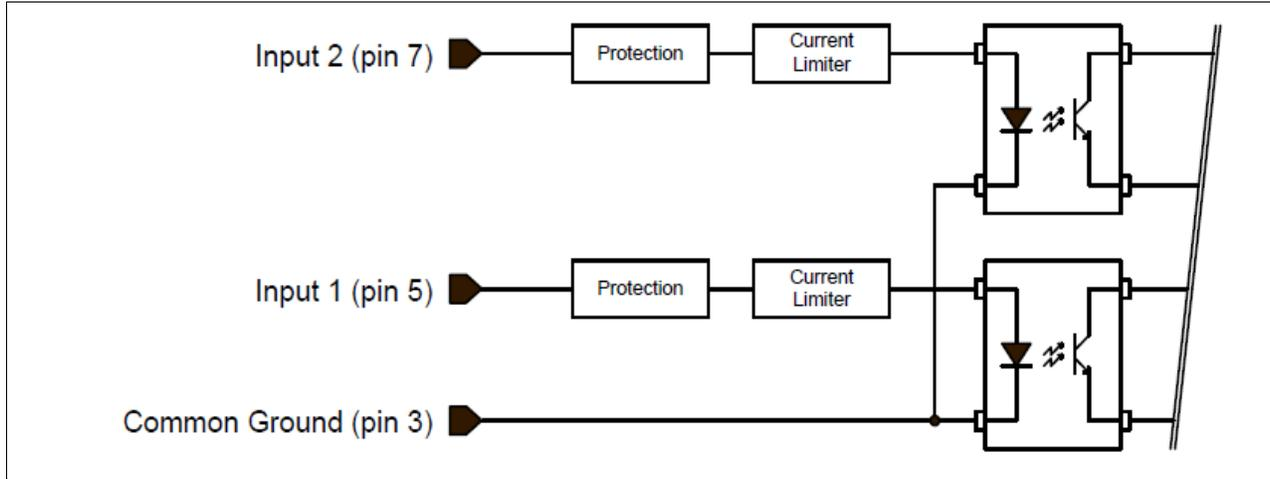

Figure 45: External Inputs Block Diagram
- See I/O Mating Connector Sources for information about the mating connector or complete cable solutions with retention clips. Figure 45 shows the pinout number assignment (external view of the camera body connector).